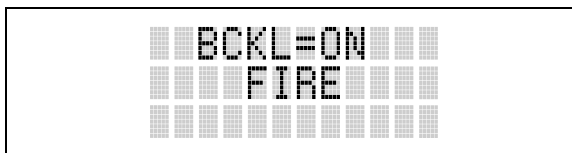

Figure 9-10: Backlight Menu Display
- Press **[M]**. The backlight menu item is activated. Line one shows the active menu item and its current parameter setting. Line two shows the currently selected system or group name (see Figure 9-10).